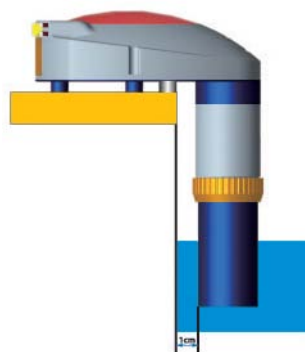

Fig 13-1
7.1 Our alarm can be adjusted to apply different water levels with a submersible sensor tube, we suggest a gap of 1-2cm between the tube and the pole wall (see Fig. 13-1/2).